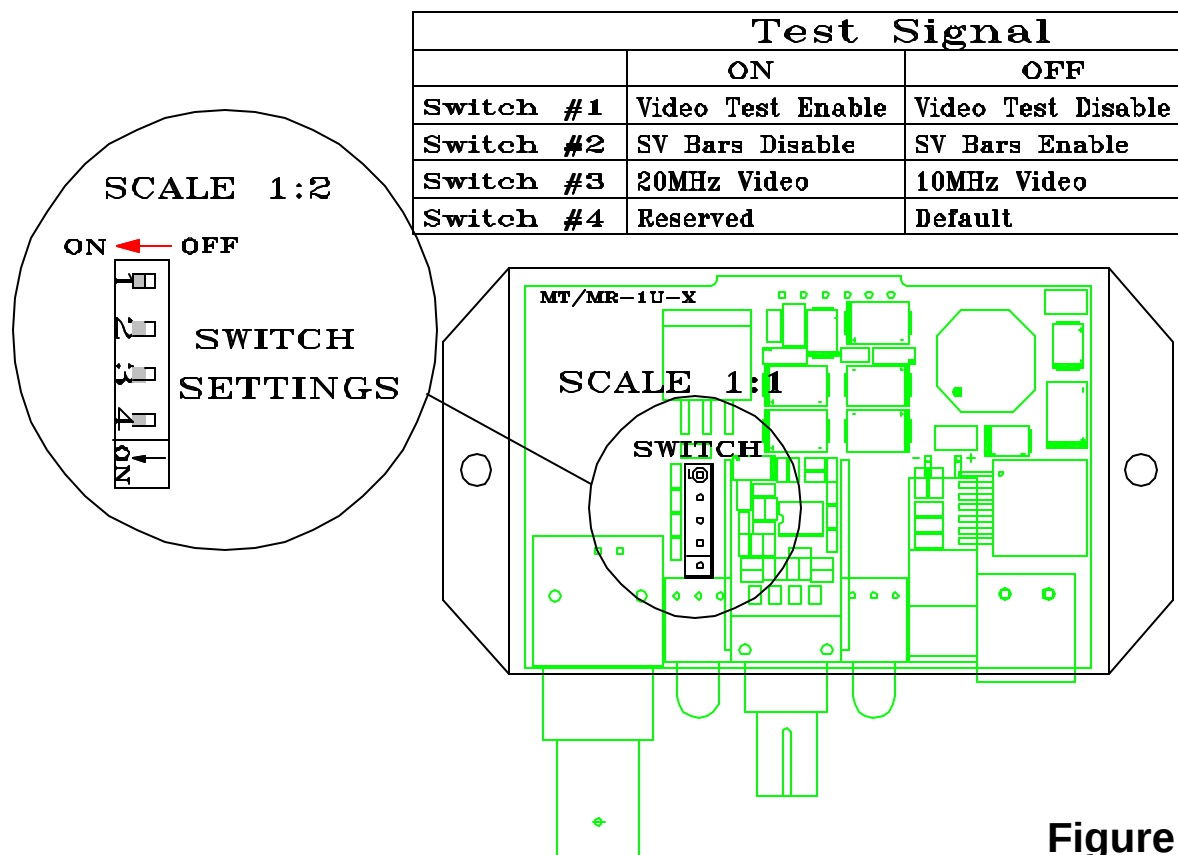

Figure 9.1
A group of 4 switches is located on the lower left side of the module's circuit card (see figure 9.1 below). The first switch is used for video test signal and the second switch is for Spectra View monitoring. The figure and table below illustrates these switch locations on the board and how they are configured. The factory-supplied default setting is Switch #1-4 OFF position.
3. Change switch settings according to table in figure 9.1